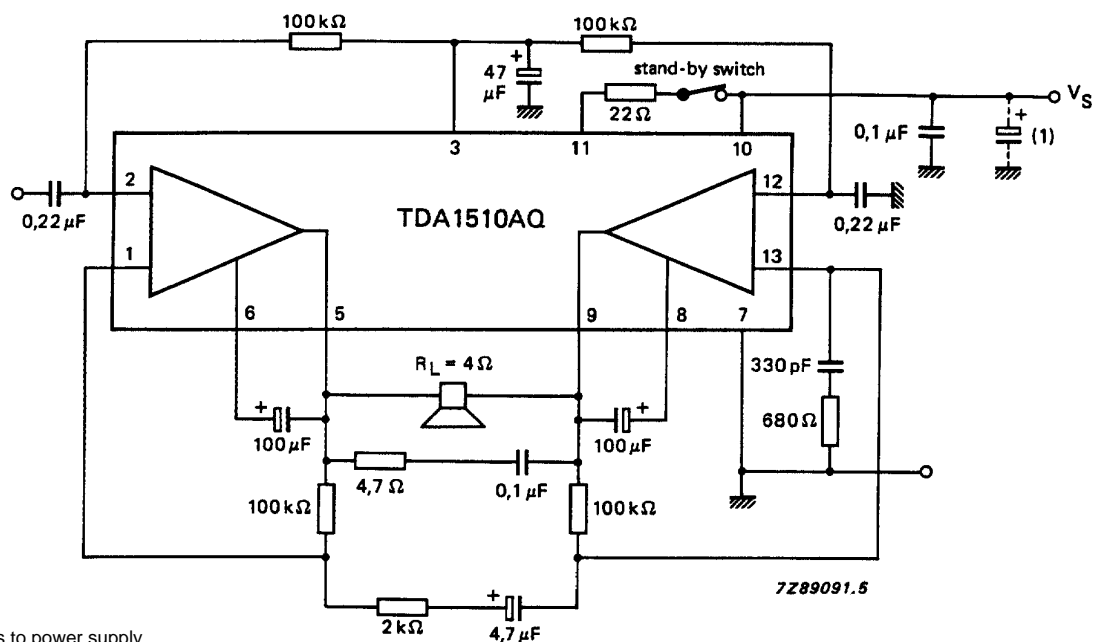

Fig.3 Test and application circuit; Bridge Tied Load (BTL).
4. The input impedance in the test circuit (Fig.3) is typ. 100 k Ω .